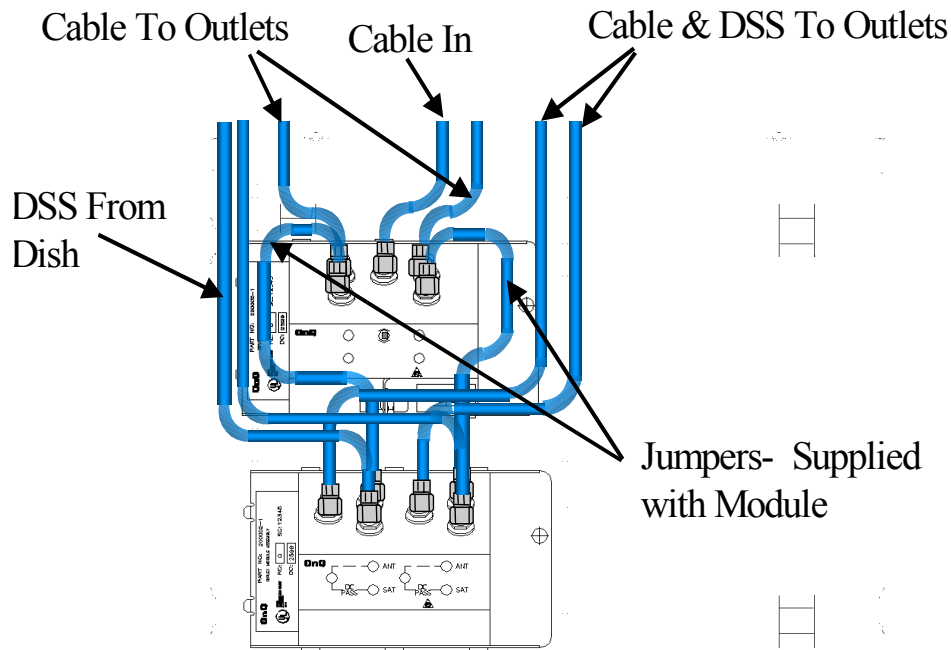

Figure 2
B. Service Connection – To OnQ Video Module (See Figure2)
D. Service Connection – CEBus Operation (See Figure 2)